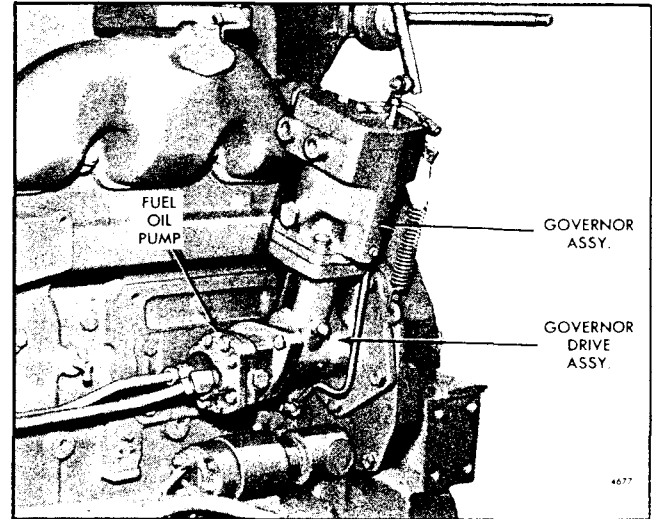

Fig. 2 - Hydraulic Governor Drive Mounting
- a. Place the flat side of the droop adjusting bracket against the inside face of the terminal lever boss as shown in Fig. 2 and secure it to the terminal lever with a flat washer, lock washer and bolt.
- terminal lever shaft sleeves in the governor housing with the convex bearing surface resting on the power piston and the droop adjusting bracket pin in the slot of the floating lever as shown in Fig. 2.
21. If removed, thread the lock nut on the maximum speed adjusting screw. Place the copper washer on the adjusting screw, then thread the screw approximately half way in the governor housing (Fig. 2).
The governor drive housing is attached to the forward face of the cylinder block end plate as shown in Fig. 2. The engine fuel pump is attached to the forward end of the drive housing and is driven by the governor drive shaft.
Refer to Fig. 2 and proceed as follows: